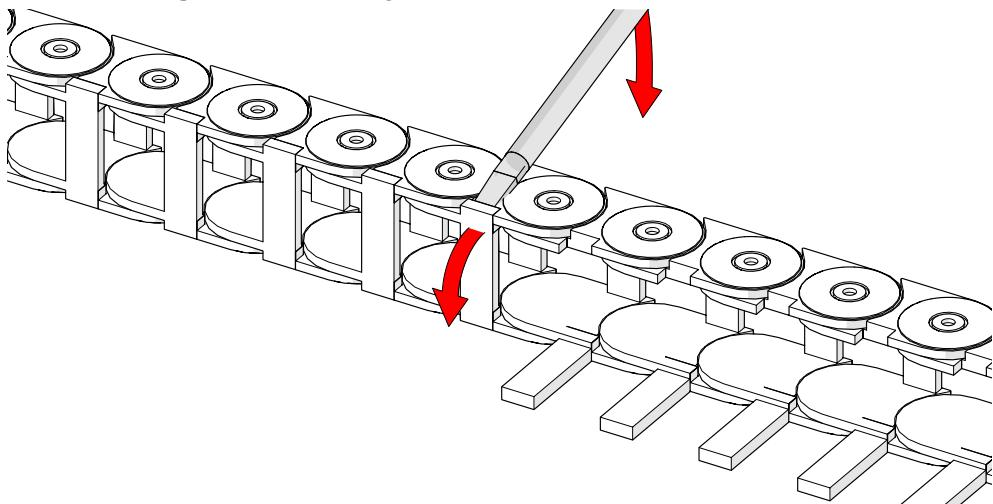

*Fig. 109 - Slide bracket attaching to carriage*
3. Slide the cable tray bracket until it locks in place (Fig. 109).